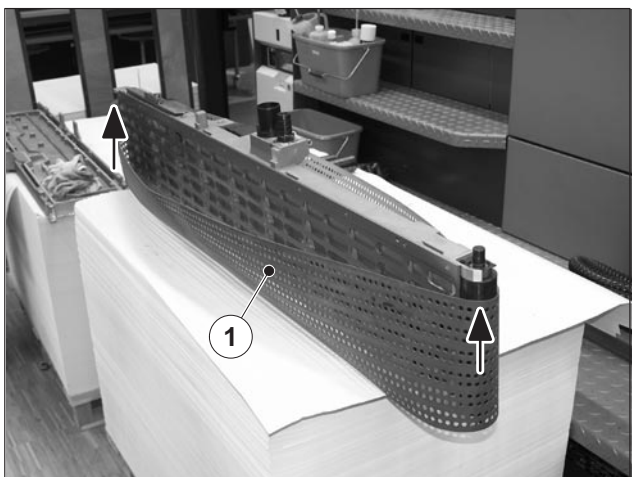

Fig. 92
8. Pull the suction tape (Fig. 92/1) off the suction tape module.